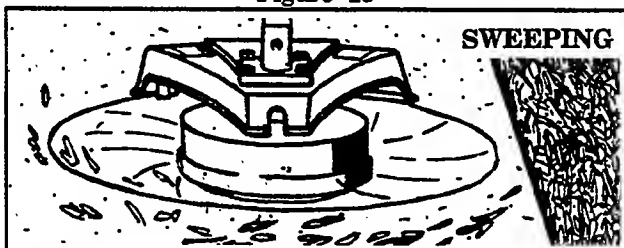

Figure 14
4. **SWEEPING** - Figure 14. The fanning action of the rotating line can be used for a quick and easy clean up. Keep the line parallel to and above surfaces being swept and move tool from side to side.